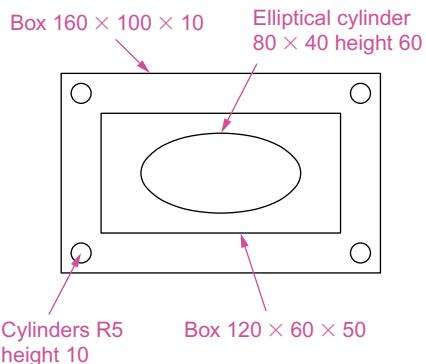
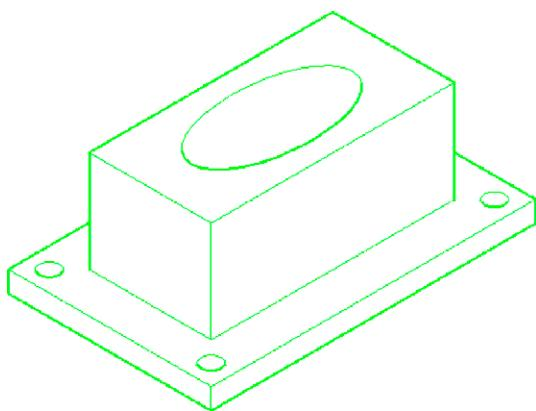

Fig. 12.29 Example – Chamfer and Fillet – sizes for the model
Fig. 12.30 Example – Chamfer and Fillet – isometric view – the model before using the tools
3. Working to the sizes given in Fig. 12.29 and using the **Box** and **Cylinder** tools, construct the 3D model (Fig. 12.30).